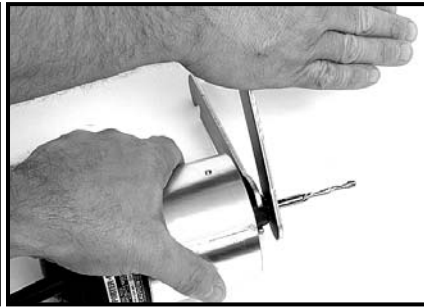

Fig. 2
4. Place one wrench on flats of chuck with the opposite end of the wrench resting on the bench to your left (Fig. 2).